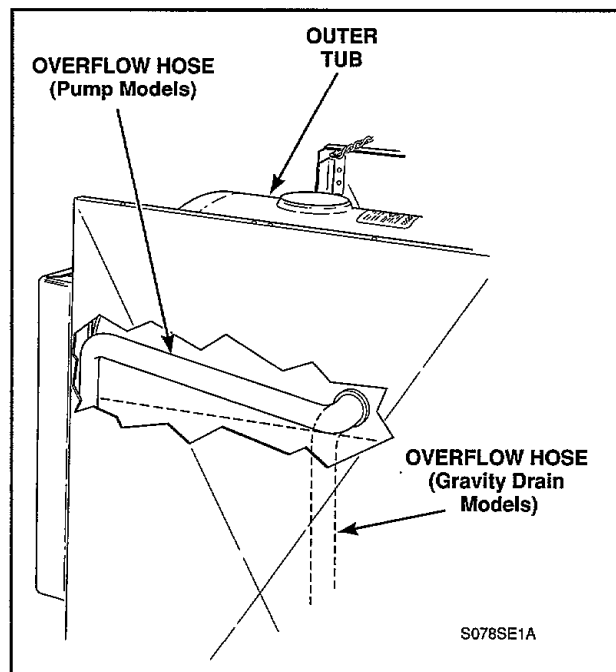

Figure 32
- k. Disconnect overflow hose from outer tub, *Figure 32*. DO NOT chip porcelain tub.
IMPORTANT: When installing overflow hose (pump models), run hose on incline toward front of washer, *Figure 32*.